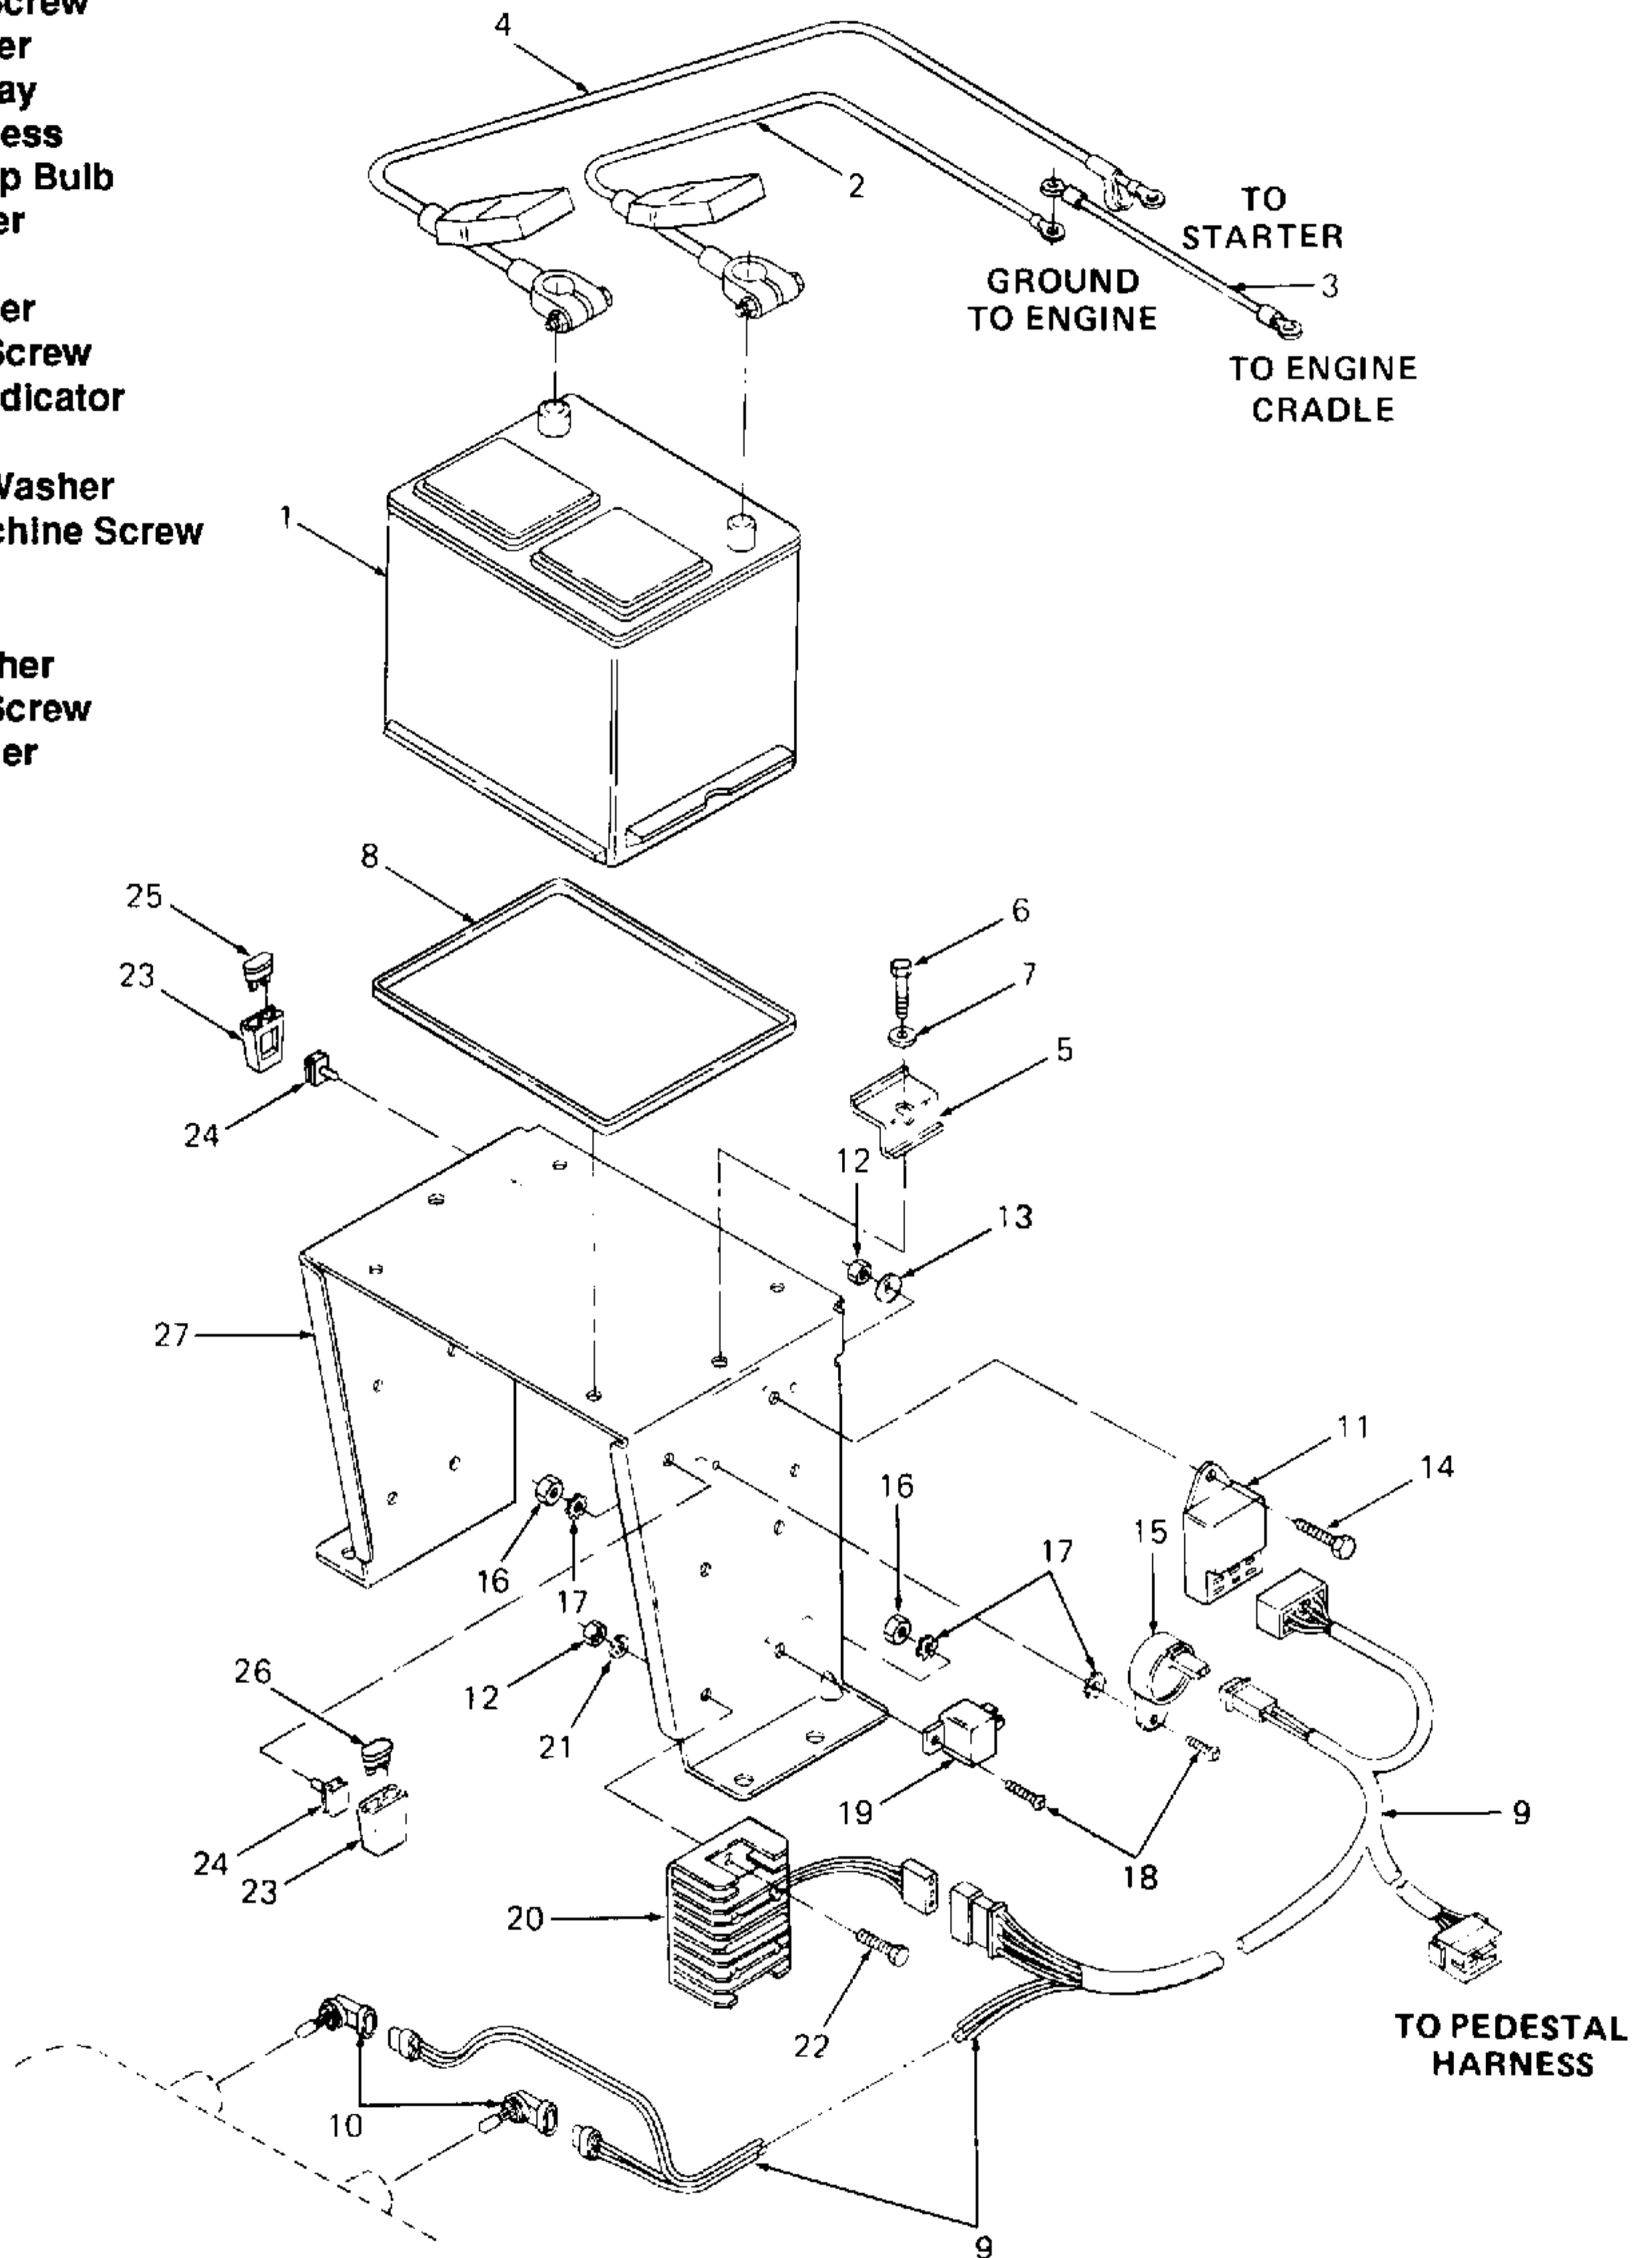

Figure 5-12. Battery and Electrical Components (Model 1782).
2. Remove battery (1, Figure 5-12) as follows:
- a. Disconnect negative battery cable (2) from battery (1) first, then disconnect positive battery cable (4) from battery.
- b. Remove battery hold down (5) by removing hex cap screw (6) and flat washer (7).
3. Remove negative battery cable (2) from ground cable (3). Remove ground cable (3) from engine.
4. Remove positive battery cable (4) by removing secured end from starter.
5. Remove battery tray (8).
6. Remove main harness (9) as follows: